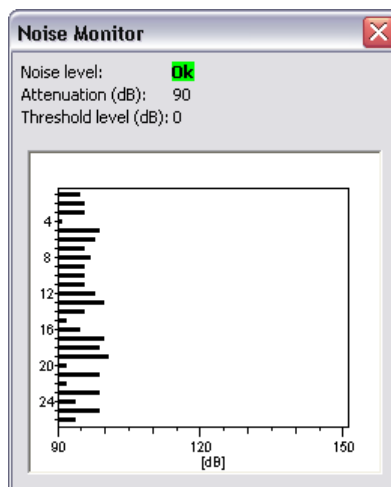

Figure 43 Increased attenuation value
- Adjusting the attenuation (Figure 43)